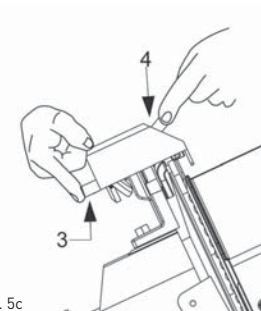

Fig. 5c
- push buttons simultaneously for 3/4 seconds (3 and 4, Fig 5c) and then leave them simultaneously;